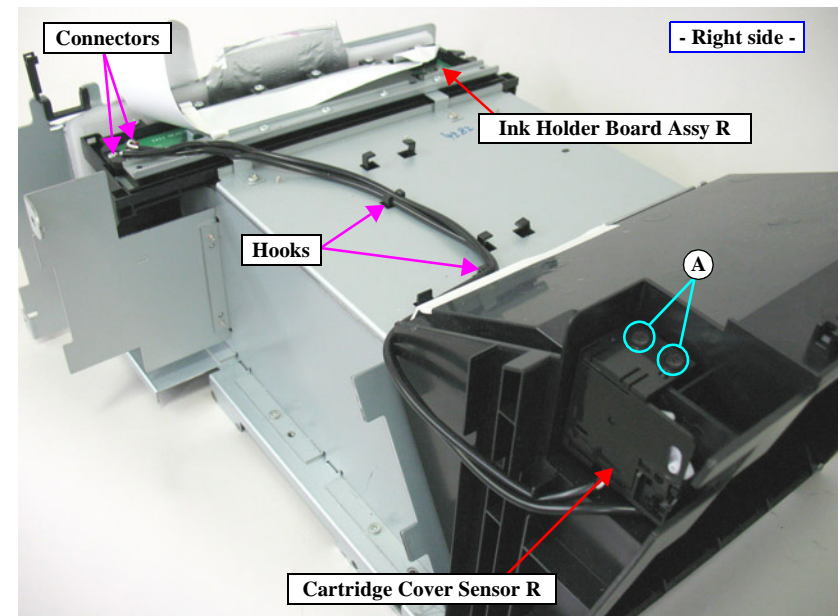

Figure 4-43. Removing the Cartridge Cover Sensor R
9. Release the harness from the two hooks. *See Figure 4-43.*